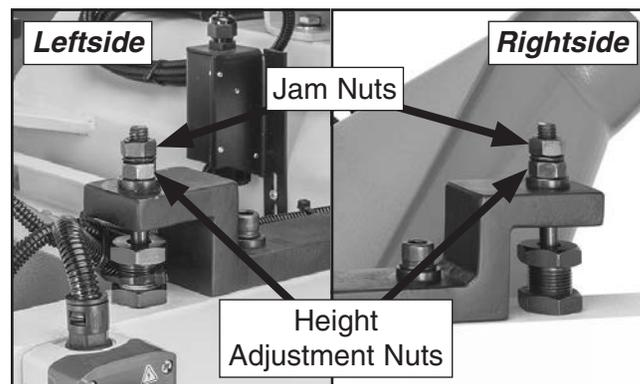

Figure 124. Location of upper pressure roller height adjustment hardware.
5. Loosen upper pressure roller jam nut and hex nut on spring-loaded height adjustment rod (see **Figure 124**).